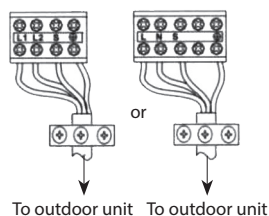

FIG. 22
- 3 Lift the indoor unit panel up, remove the electrical box cover by loosening the screw as shown in Fig.22.